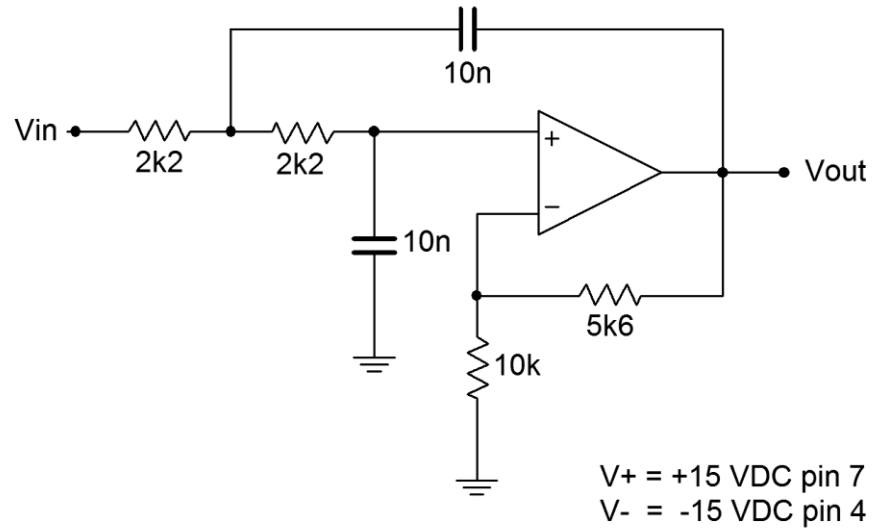

Figure 1
1. The circuit of Figure 1 is a second order low pass filter. Calculate and record the corner frequency (f_2) and mid-band voltage gain in Table 1.
2. Assemble the circuit of Figure 1.